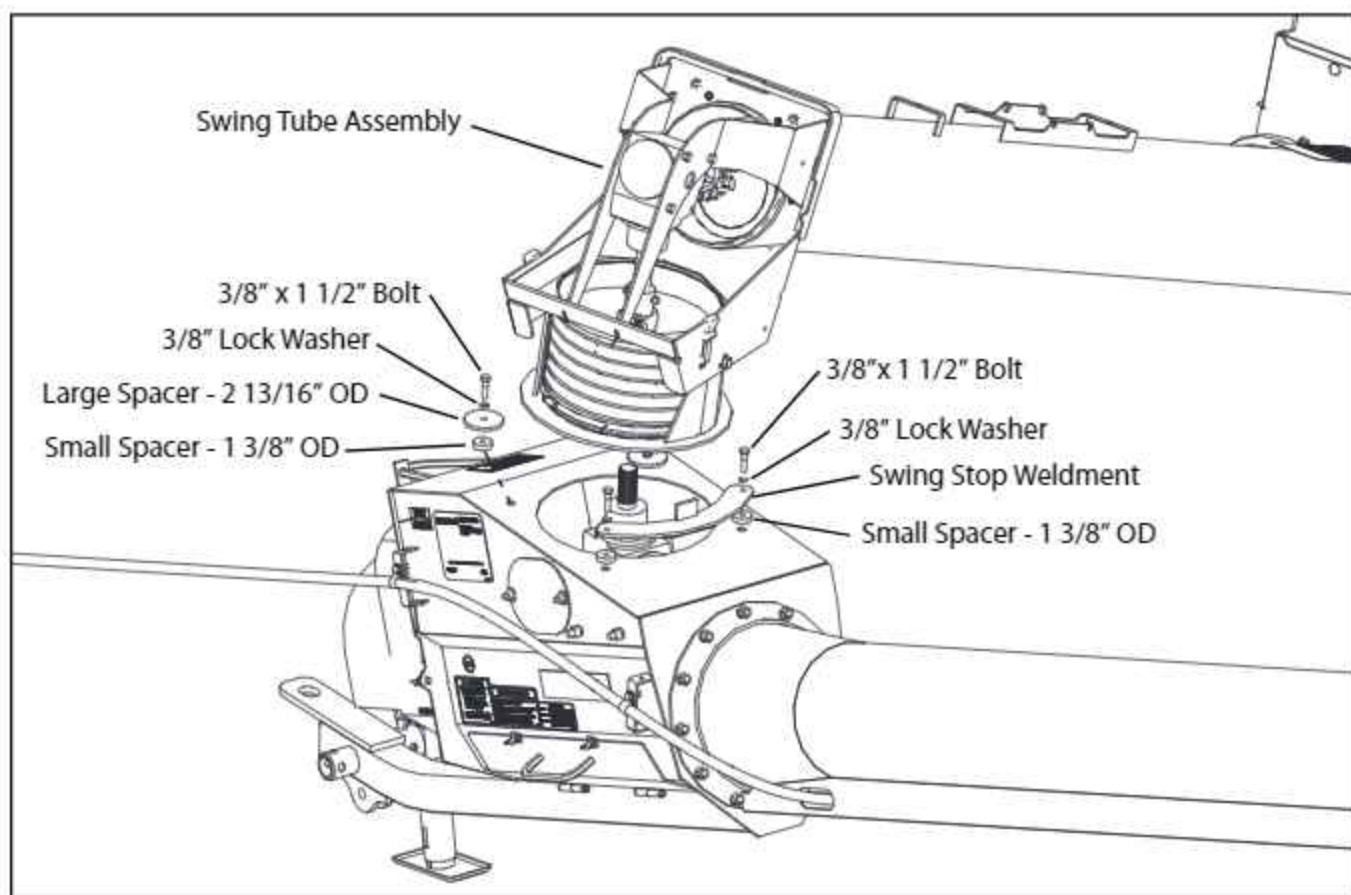

FIG. 3-38. Swing Tube to Boot Assembly
2. Using a front end loader and a sling, pick up the Swing Auger and hang the spout over the intake boot opening. Remove the inspection cover on the right side of the intake boot. With a stick or piece of metal, guide the U-Joint onto the boot gearbox while slowly lowering the Swing Auger. See Fig. 3-38.
3. When the swing tube spout is seated properly, the flange on the end of the spout should lay flat onto the boot. Secure in place using the hardware illustrated in Fig. 3-38. The 3/8" I.D. x 1 3/8" O.D. x 3/8" thick spacers washers are positioned next to the boot and outside the flange, followed by two 3/8" ID x 2 3/4" O.D. x 1/4" thick steel washers, the 3/8" lock washers and 3/8" x 1 1/2" bolts into the two holes on top of the boot which are closest to the PTO shaft. The Swing Stop Weldment is positioned on top of the other two washers as shown in Fig. 3-38. Rotate the swing auger to ensure correct setup.